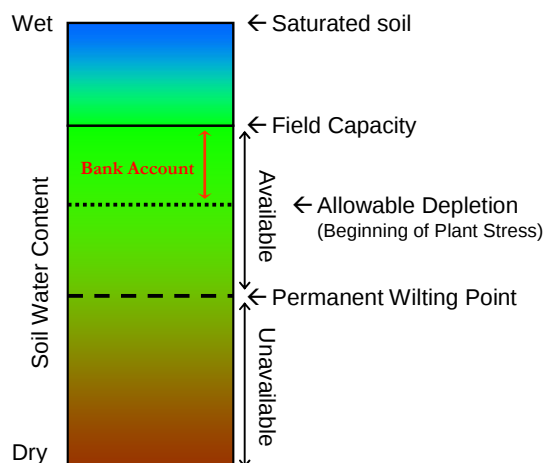

Figure 1. Soil water content from saturated to dry. Optimal soil moisture levels for plant growth are between field capacity and allowable depletion.
- o Available Water is the amount of water held in the soil between field capacity and permanent wilting point. (Figure 1.)